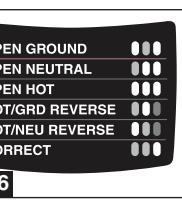

Fig. 6
3. Observe the L.E.D.s and match with the status chart located on the housing. (Fig. 6)